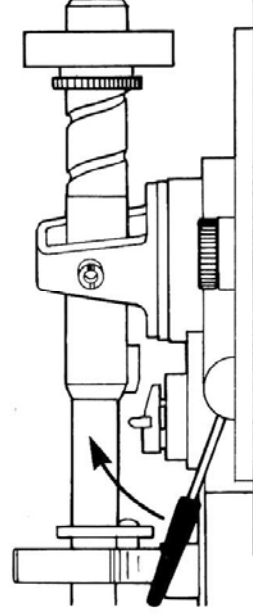

Fig. 13 Cueing lever
4. Lift the cueing lever as shown in Fig. 13.